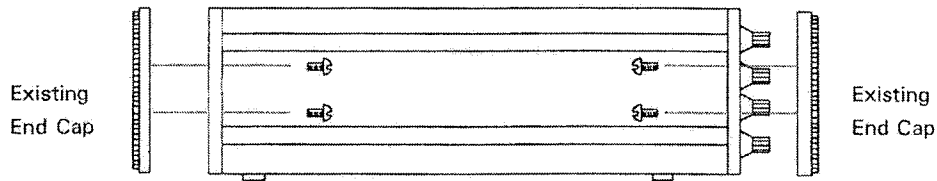

Figure 6-2 Removing End Caps
1. Remove the existing front and rear end caps from the Model 73 as shown in Figure 6-2.